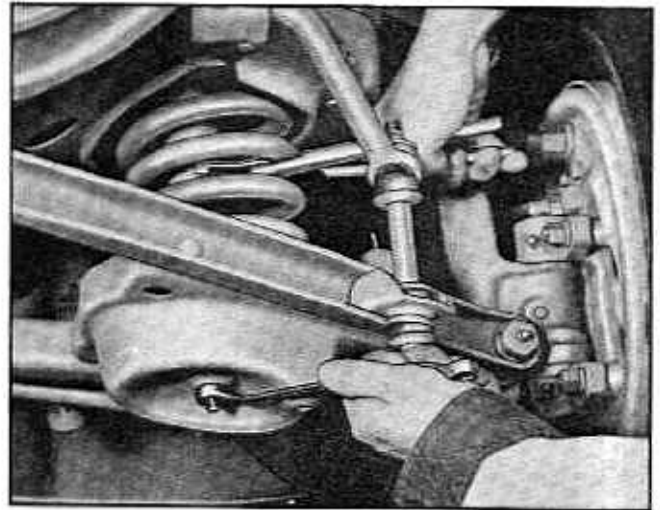

Fig. 3-13 Holding Shock Absorber to Loosen or Tighten Retaining Nuts
2. Loosen and remove two nuts from bottom stud on shock absorber. NOTE: Shock absorber must not turn while loosening nuts. If necessary, use water pump pliers inserted through coils of front spring to hold shock absorber reservoir tube from turning (Fig. 3-13). Spring coils can be pried apart with large screw driver or similar tool to provide sufficient space to insert pliers.